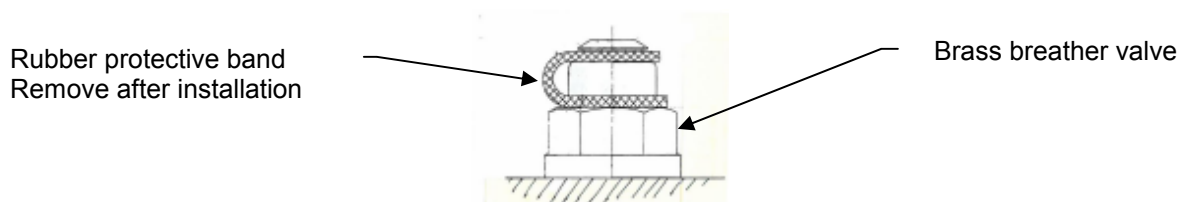

Figure 6 – Reducer breather valve with protective band
2. Check the reducer breather valve and make sure that the protective rubber band is removed and discarded. See Figure 6.